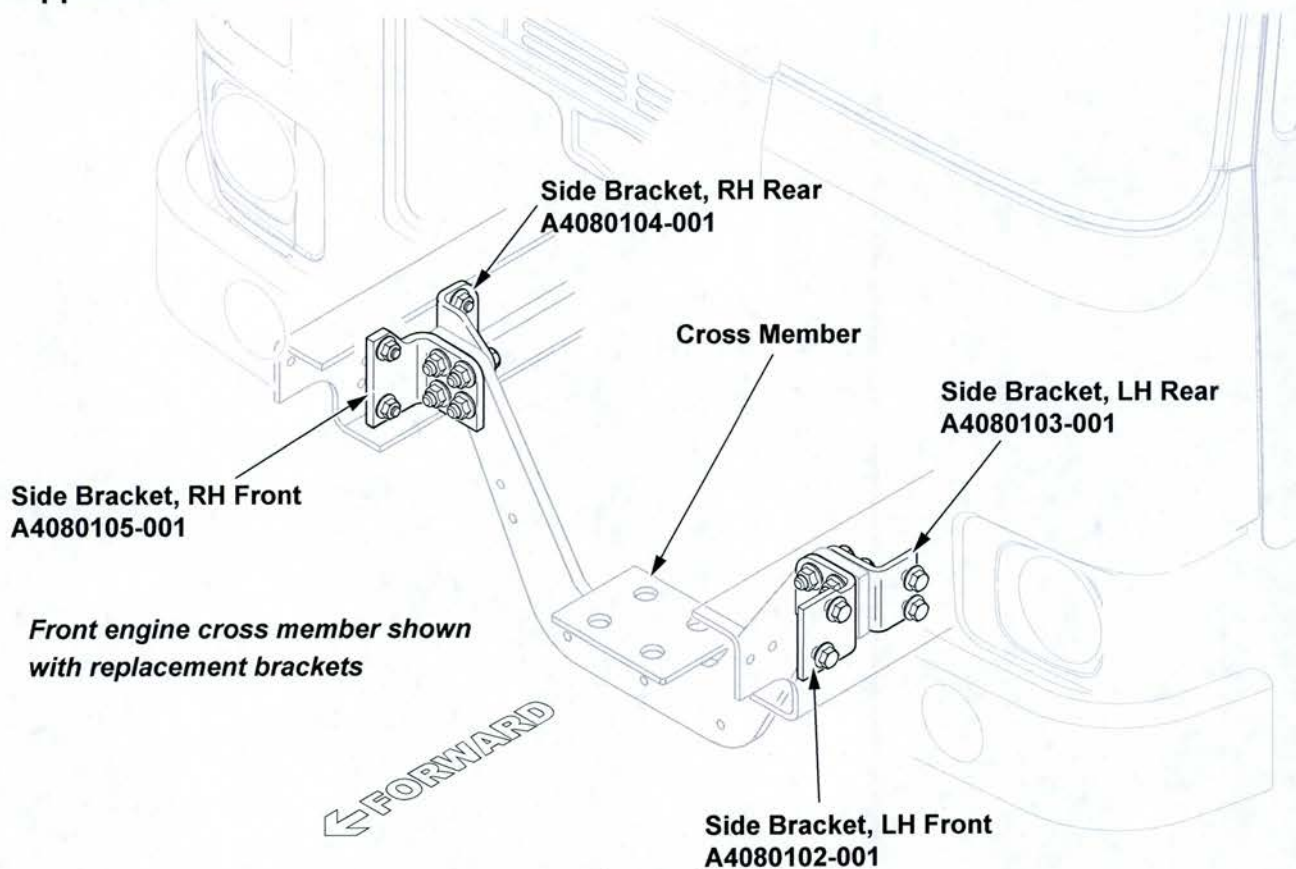

Figure 1
2. Locate the front engine cross member and the LH and RH side brackets (see Figure 1).
4. Using a huck cutter, remove the fasteners from the RH rail at the front and rear side brackets and discard (see Figure 1).
12. Using a huck cutter, remove the fasteners from the LH rail at the front and rear side brackets and discard (see Figure 1).